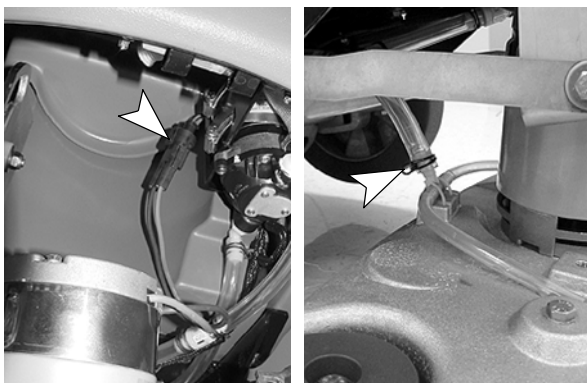

FIG. 66
- Unplug the brush motor wire connector and disconnect the solution feed hose (Figure 66).